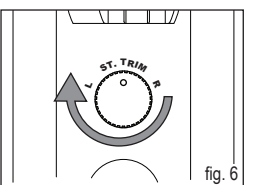

fig. 6
- When the helicopter spirals (fig. 4) or keeps turning anticlockwise (fig. 5), press the right side of the yaw trim button ("R") repeatedly until the helicopter flies straight (fig. 6).